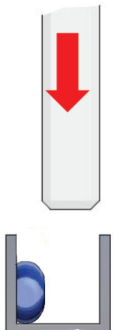

FIG 13.
- When panels are correctly aligned, remove panel 1 (FIG 2), and run a thick continuous line of silicone down the inside of the wall channel (FIG 13) and apply liberally in the floor to wall channel join.